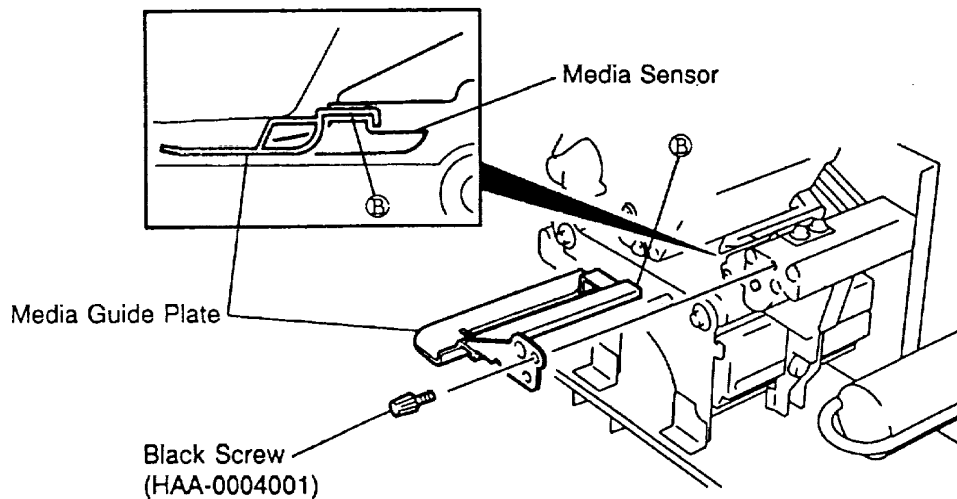

Fig. 10-2
3. Turn the head lever to position ③, then release the ribbon shaft holder plate.
4. Remove the black screw to detach the media guide plate. (See Fig. 10-2.)
8. Place the portion ② of the media guide plate on the media sensor. Secure the media guide plate with the black screw.